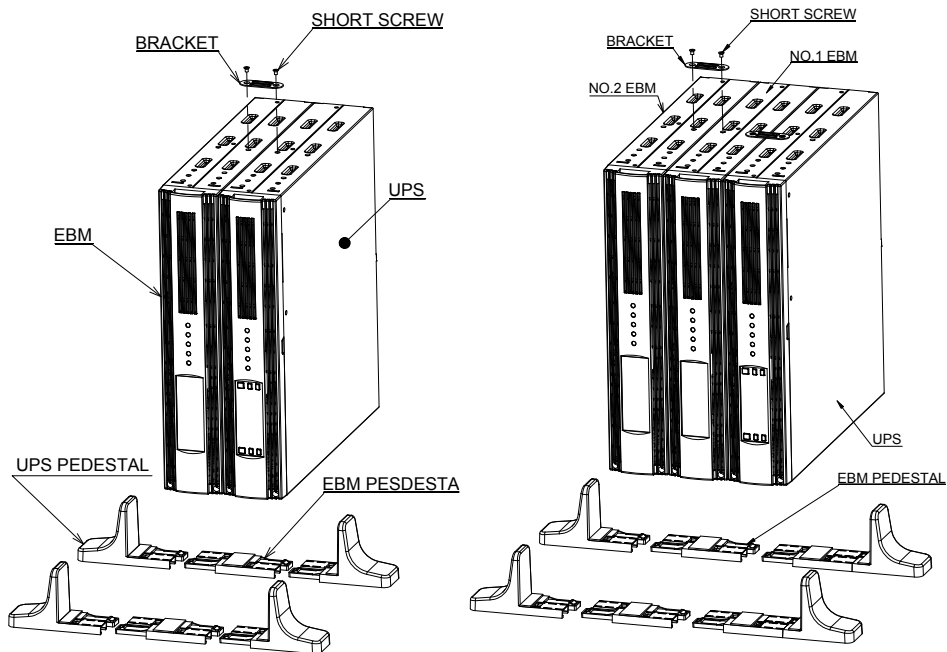

Figure 3-5 Installation of Tower (used EBM)
5. Fix UPS and EBM with a bracket like Figure 3-5.